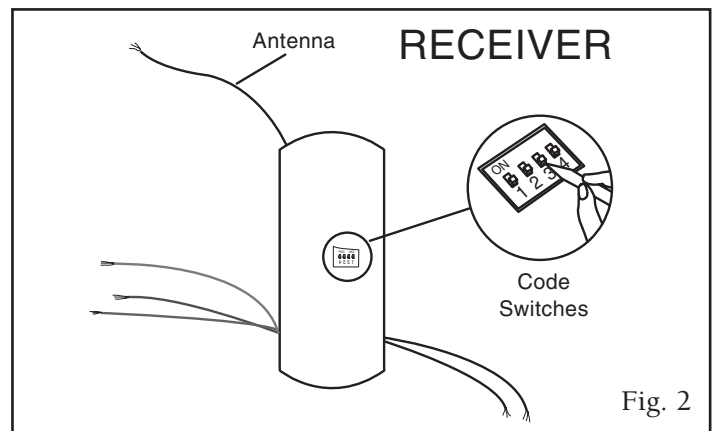

Fig. 2
2. Setting the code on the RECEIVER [Fig. 2]: